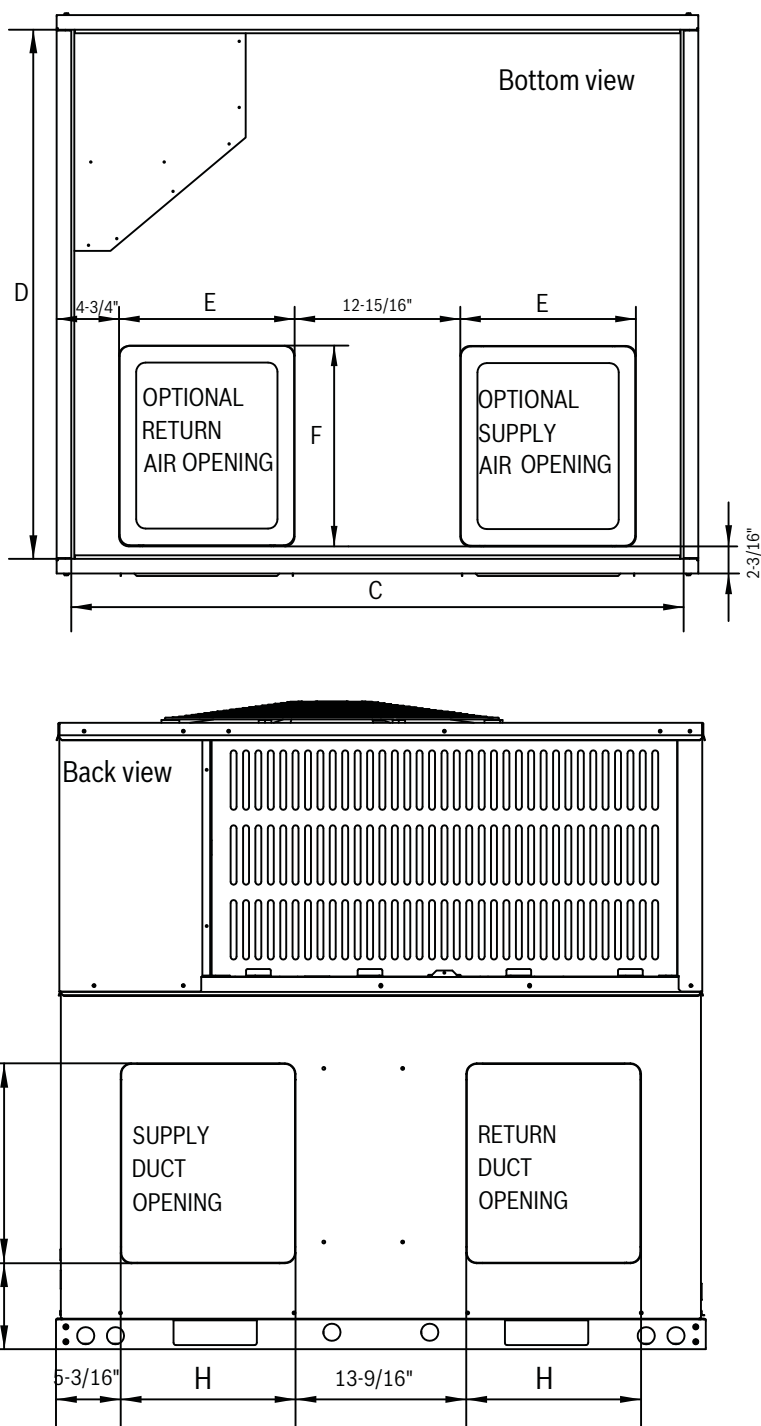

Figure 3
1. Remove the sheet metal screws securing the supply air cover and the sheet metal screws securing the return air cover from the base of the unit. Remove the covers from the base. See Figure 3.
2. Place the covers over the horizontal supply and return openings (painted side out). Align the screw holes, and secure using the same screws removed in step 1. See Figure 3.